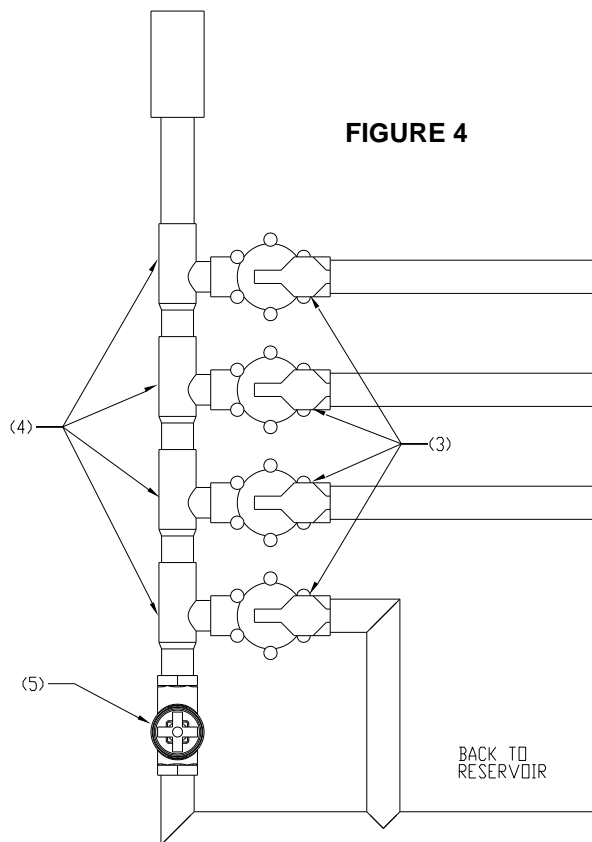

FIGURE 4
13. The valve manifold for the Stand Alone version should be setup as shown in **FIGURE 4**.
14. Each of the 1" Manifold Tees (4) should be attached to one of the 1" HPV Valves (3). This is done by threading the male portion of the manifold tee to the female inlet side of the valve. It is important to insure that the valve is placed in the correct direction for the system to work properly.
15. It is also important to insure that the valves are all in the same orientation before attaching the Manifold Tees (4) as shown in **FIGURE 4**.
16. The Manifold Tees (4) should first be wiped with a PVC Primer and then given a liberal amount of PVC Glue on one of the surfaces before connecting the male and female ends.
19. The last portion of the valve manifold should connect the 1" Globe Valve (5) from the end of the valve manifold to the same line as the recirculation line, as shown in **FIGURE 4**. This will work as a bypass and will allow you to manually adjust the heights of the water spray for the whole system.